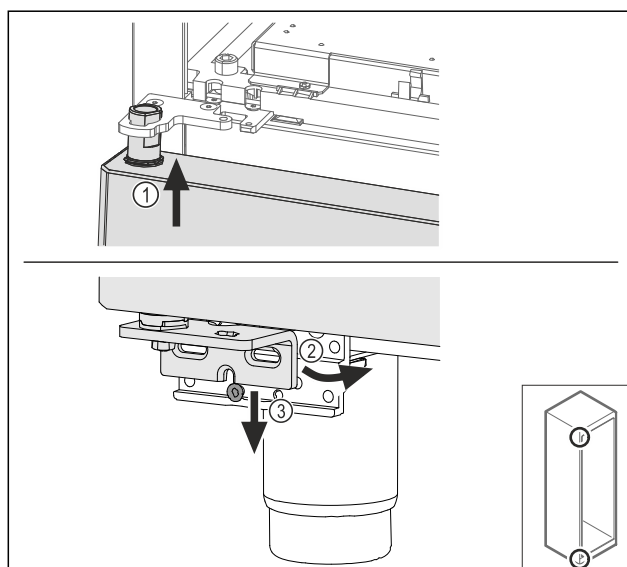

Fig. 68
- ▶ Insert the door slightly tilted at the top Fig. 68 (1), align the door straight Fig. 68 (2) and place it on the bottom of the swap bearing block screw Fig. 68 (3).